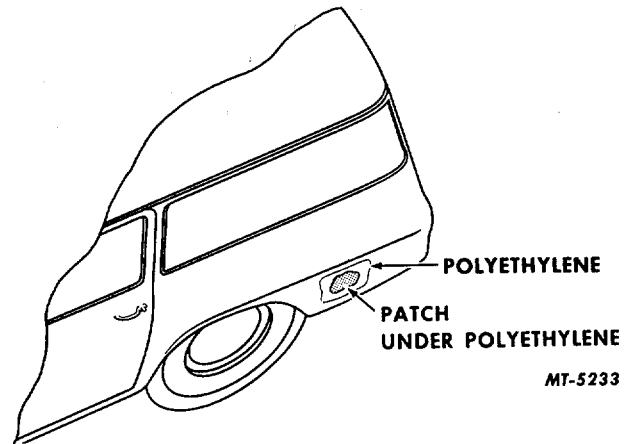

Fig. 15
1. Clean metal to bare surface and dent in surface being repaired as in items 1 and 2 for "Small Holes".
2. On a piece of polyethylene position a piece of cloth larger than hole being repaired. Saturate with resin mixture. Apply two layers of mat (Fig. 4) saturating both with the resin mixture. Now place the entire patch on the prepared surface and press on to metal. See Fig. 15. Allow the patch to cure, then peel off polyethylene.